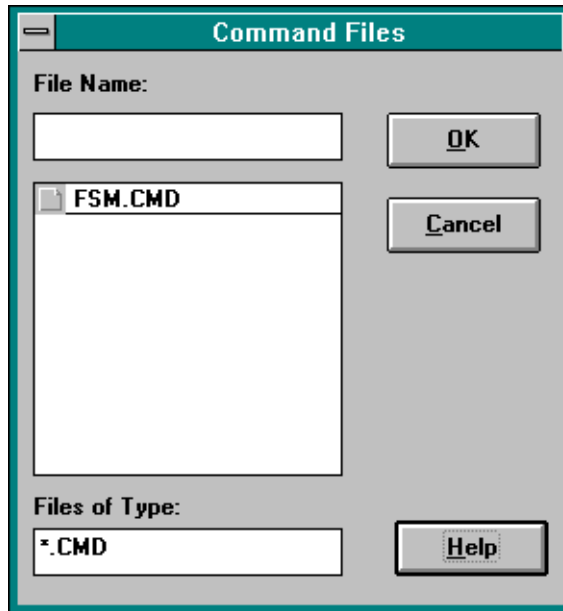

Figure 2-20 Command Files Browser
1. Select the second **PROsim** button in PROflow. The Timing Simulation dialog box appears as in Figure 2-20: